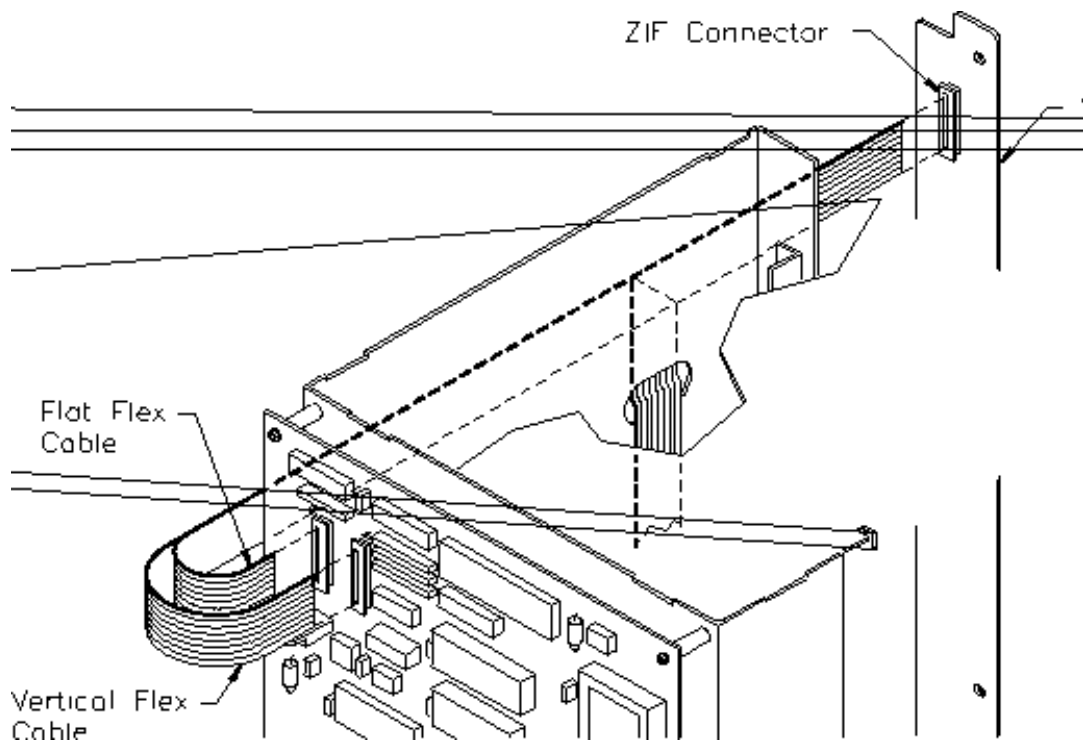

Figure 23-6 Flat flex cable and vertical flex cable
3. Locate the flat flex cable, which is connected to the VDISPLAY card on the CHS front panel and the VMC card on the back of the chassis wall. Figure 23-6 shows the location of the flat flex cable.
1. Slip the flat flex cable underneath the vertical flex cable in the cable shielding. Guide one end of the cable through the slot on the top corner of the VMC card. Guide the other end toward the VDISPLAY card, as shown in Figure 23-6.
1. Position the cable so that one end leads through the slot in the VMC card and the other end leads through the slot in the side of the chassis, as shown in Figure 23-6.